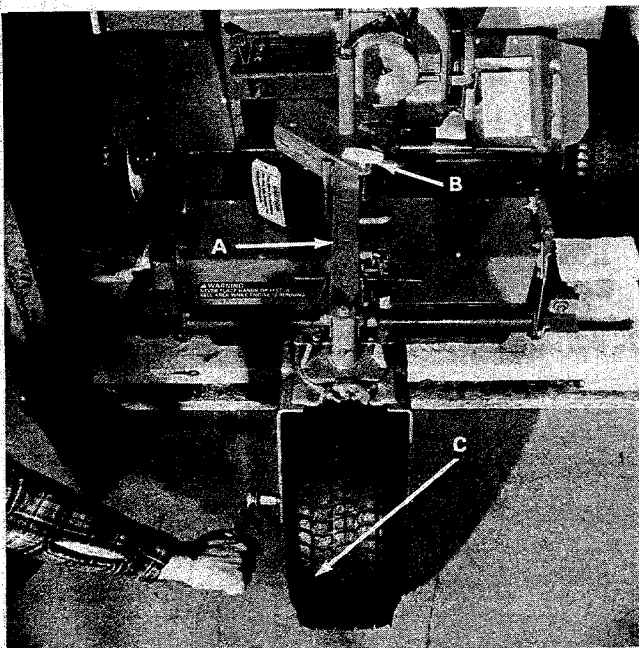

Figure 2
4. Rotate sulky "A" out into position, install stud and handle assembly "B" and install rear wheel "C" (Fig. 2 & 3).